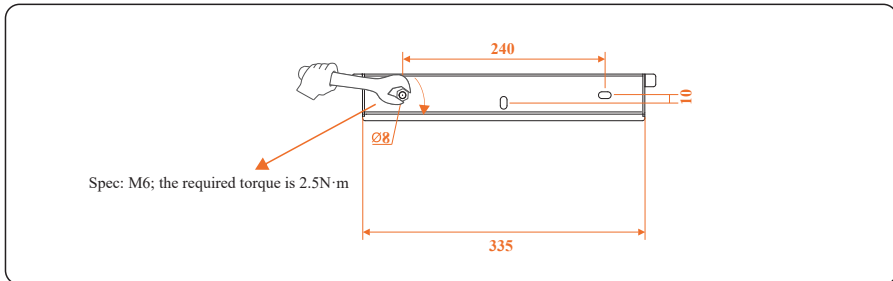

Figure 4.12 Installing the rear panel (unit: mm)
- Step 5** Align the rear panel with the holes, insert expansion bolts into the holes through the rear panel, and tighten the expansion bolts to a torque of 2.5 N·m using a torque wrench, as shown in Figure 4.12.